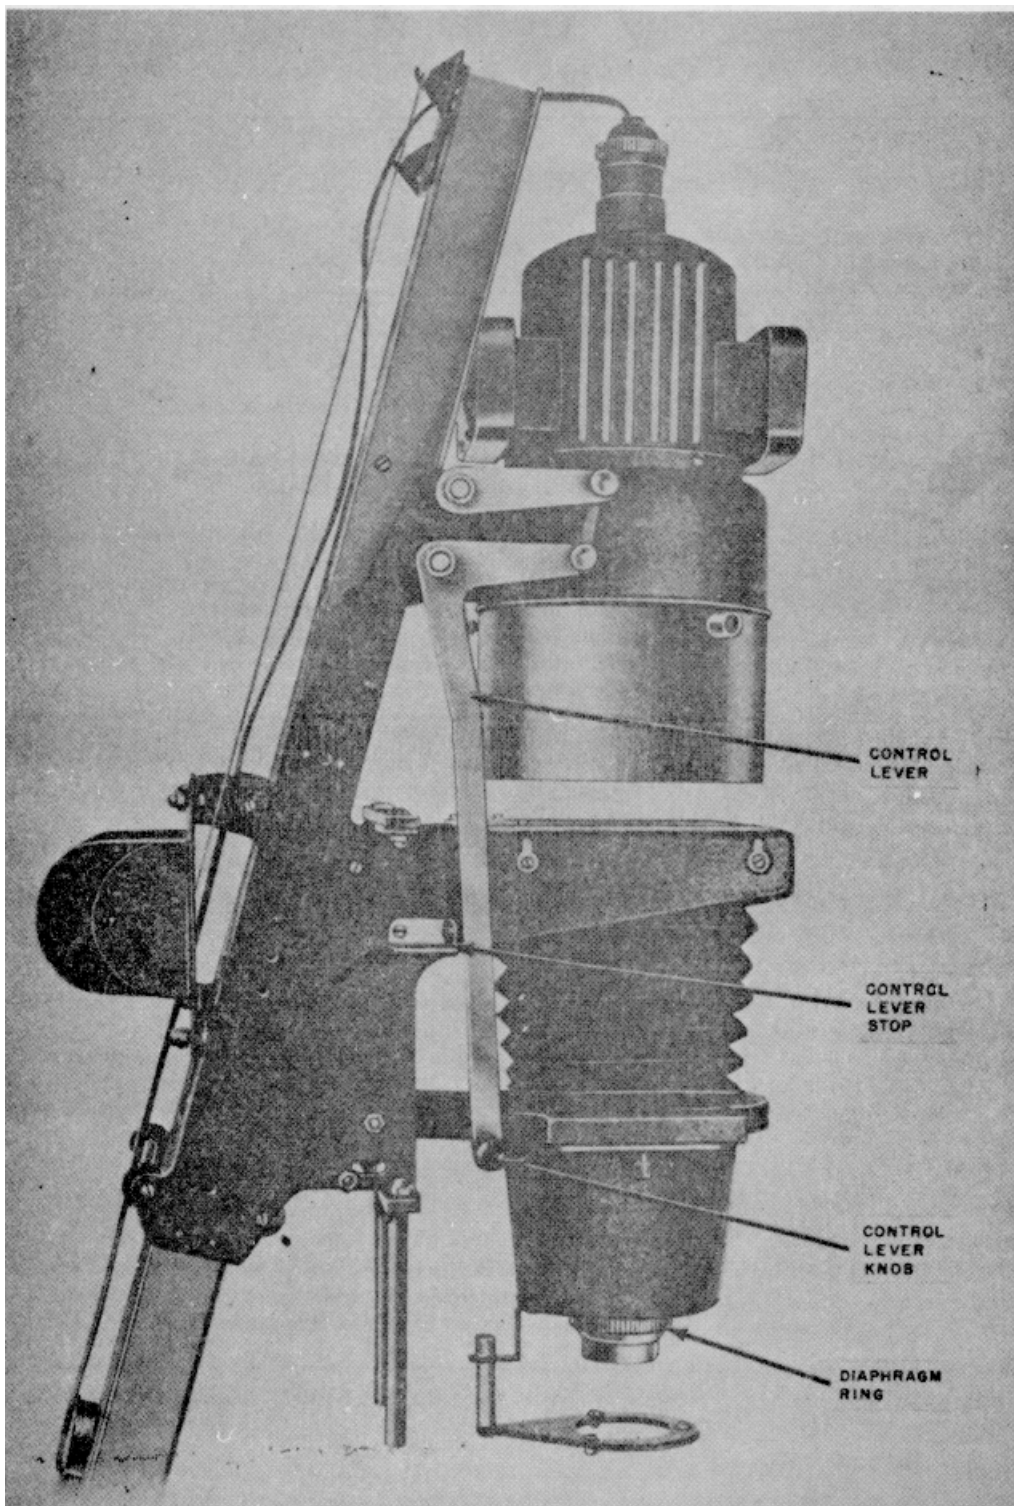

Figure 14. Printer PH-129-(\*) or Printer PH-639(\*) TF, left-side controls.
Control lever (fig. 14)	In forward position raises condenser lens assembly. In rear position lowers condenser lens assembly.
(a) Pull the control lever (fig. 14) forward and over the control lever stop.
- (g) Release the control lever (fig. 14).